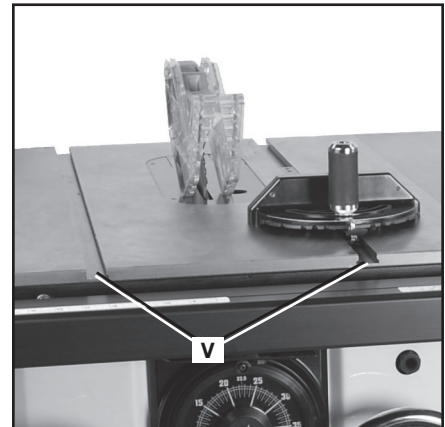

FIG. 17
3. Insert miter gauge bar end into either miter gauge slot (V) on table (Fig. 17).